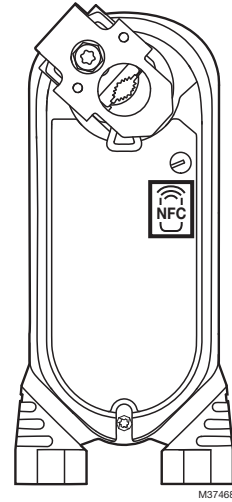

Fig. 21. NFC access area location.
- The NFC access area location is shown in Fig. 21.